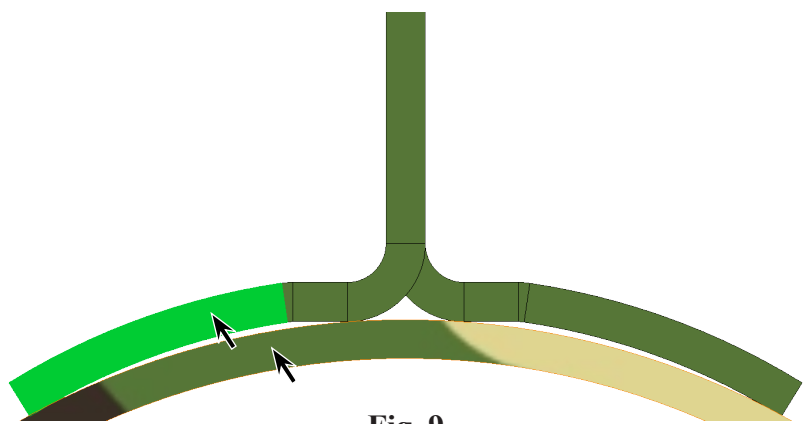

Fig. 9
Step 9. Click **bottom face of left flange** and **bottom face of Body Tube**, **Fig. 9**.